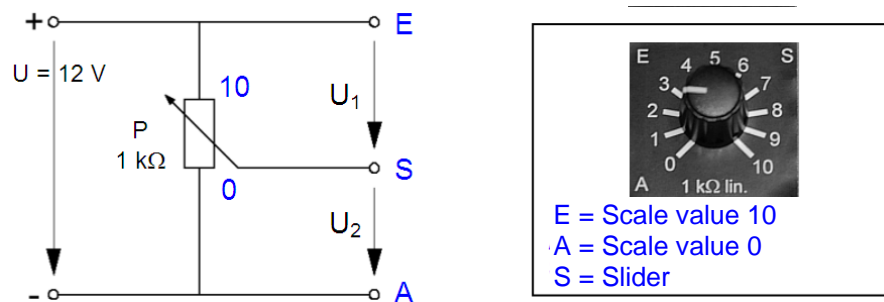

Fig. 3.10.2.2: Potentiometer
- Insert the potentiometer  $P = 1\text{ k}\Omega$ , into the circuit of Fig. 3.10.2.2 on the Electronic Circuits Board. Use an input voltage of  $U = 12\text{ V}$  (check the set value, on a multimeter).